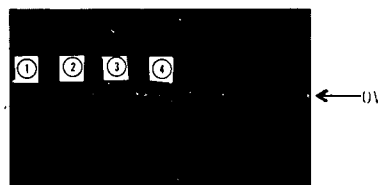

Figure 5-5. Waveforms Typically Adjusted.
- i. Adjust A4ADJ3 (A4R8) until the top of the four (4) square waves is within 0 volts  $\pm 30\text{mV}$ .
- j. The waveforms after typical adjustments of A4ADJ1, A4ADJ2 and A4ADJ3 should be as shown as in Figure 5-5.